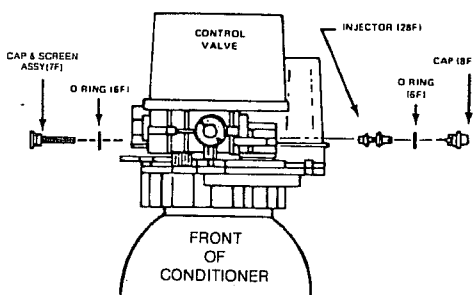

Figure 16
2. Clean Injector Screen (7F) and Injector (28F) **once a year**, (Figure 16):